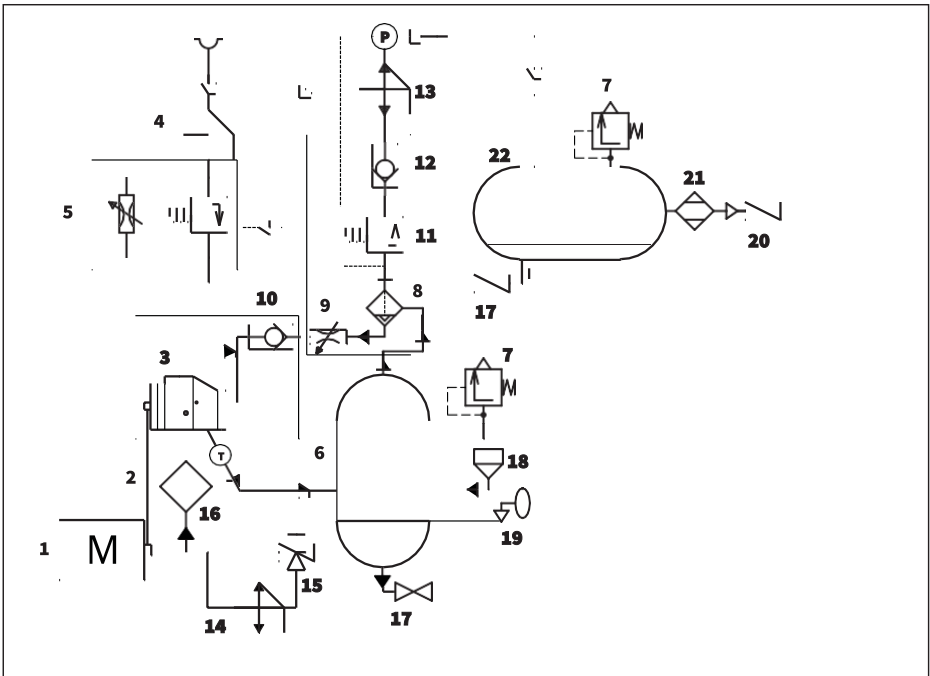

Fig. 2.3.2 Function diagram AR07..-AR22.., ARD07..-ARD22..
2.4 Functional description (see Fig. 2.3.1 and Fig. 2.3.2)